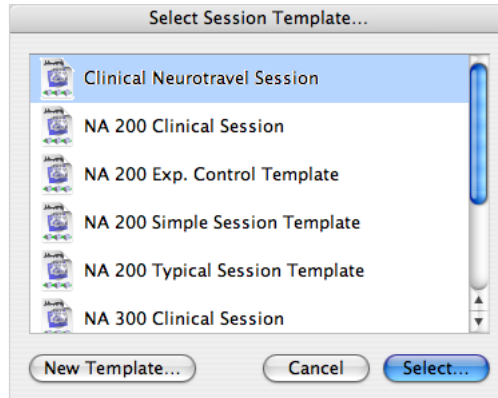

Figure 3-7. File > New opens the Select Session Template window
- *New*: opens the Select Session Template window with a list of choices for creating a new document (Figure 3-7). Each choice opens the Enter Session Information window, for inputting information about the subject / patient, experiment / exam, and so forth.